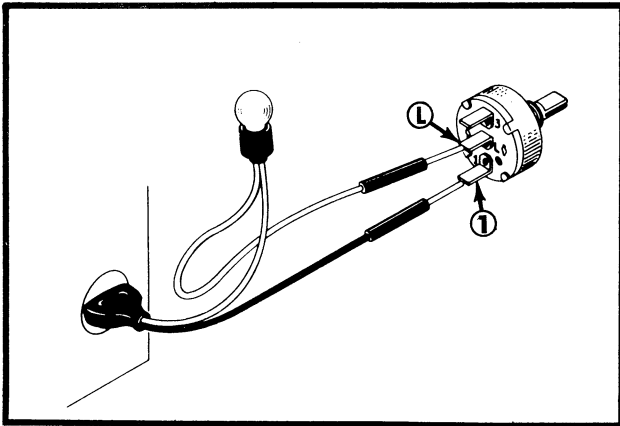

Figure 12E
HEAT SWITCH, Turn Type, Figure 12E.
4. Switch should be set at the OFF position. Place probes of test cord to terminals L and 1, Figure 12E. Ohmmeter should NOT show continuity, or test lamp should NOT light.
TEMPERATURE SELECTOR SWITCH (HEAT SWITCH) Figure 12E. 12F.